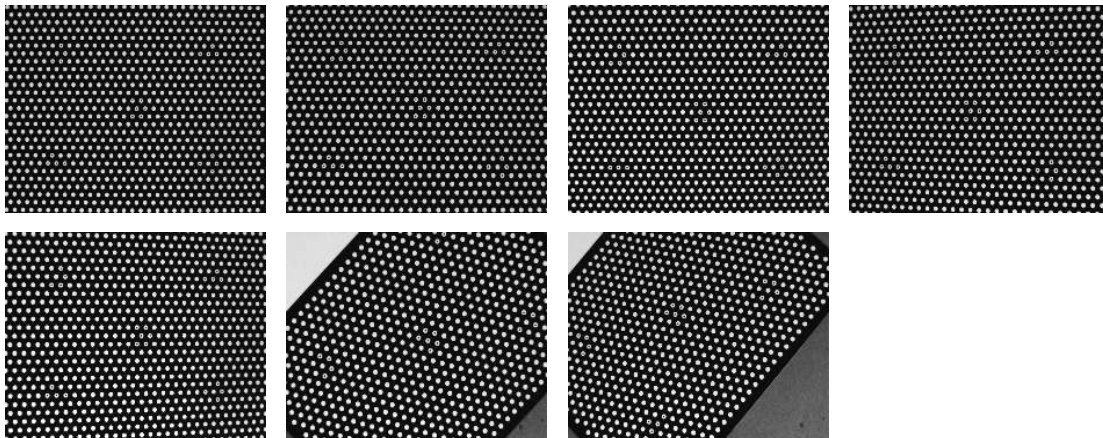

Figure 7.2: Example for suitable calibration images using a calibration plate with hexagonally arranged marks.
9. Use various orientations of the calibration plate: Use at least four images with different tilt in every direction as shown in figure 7.1 and figure 7.2 on page 254 (for calibration plates with rectangularly arranged marks we recommend to tilt the plate in every quadrant of the image twice and vary the tilting direction).